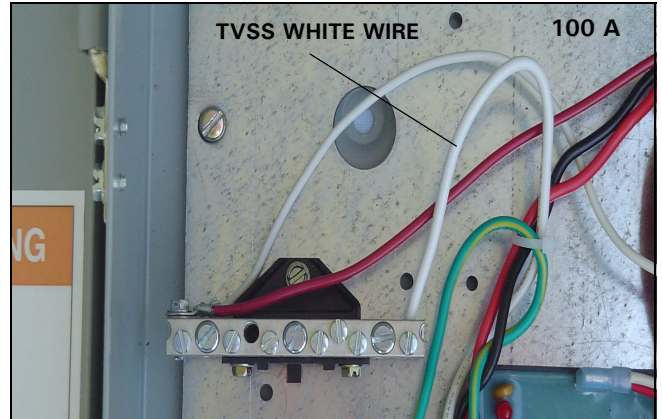

Figure 58. TVSS White Wire Connected to the 100 A Neutral Bar.
Step 12: On 100 A standard ATSS, secure the white TVSS wire to a receptacle on the neutral bar using a blade screwdriver (see Figure 58).